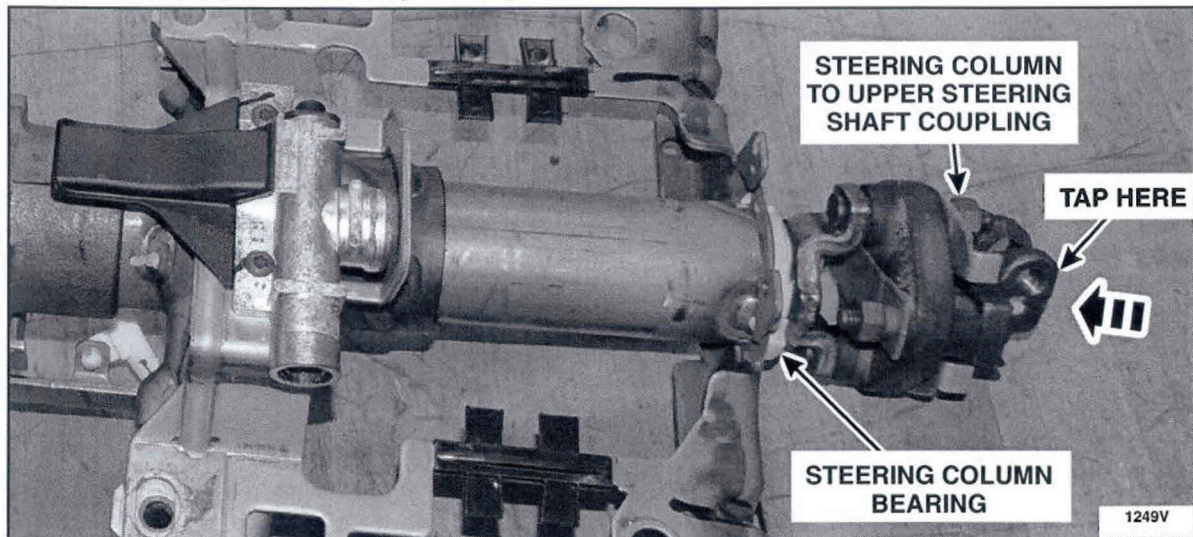

FIGURE 6
3. Use a suitable dead blow hammer to lightly tap the steering column to upper steering shaft coupling to seat the steering column bearing. See Figure 6.